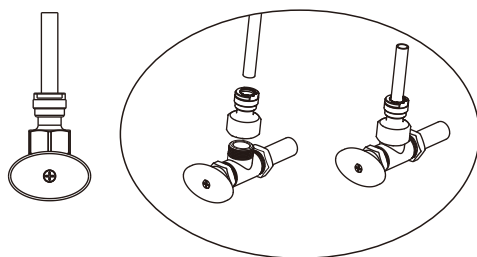

Figure 1
1. If the outlet of the angle valve is 1/2", you can directly install an adapter (choose external or internal thread according to the situation) to connect the inlet hose. (Figure 1)